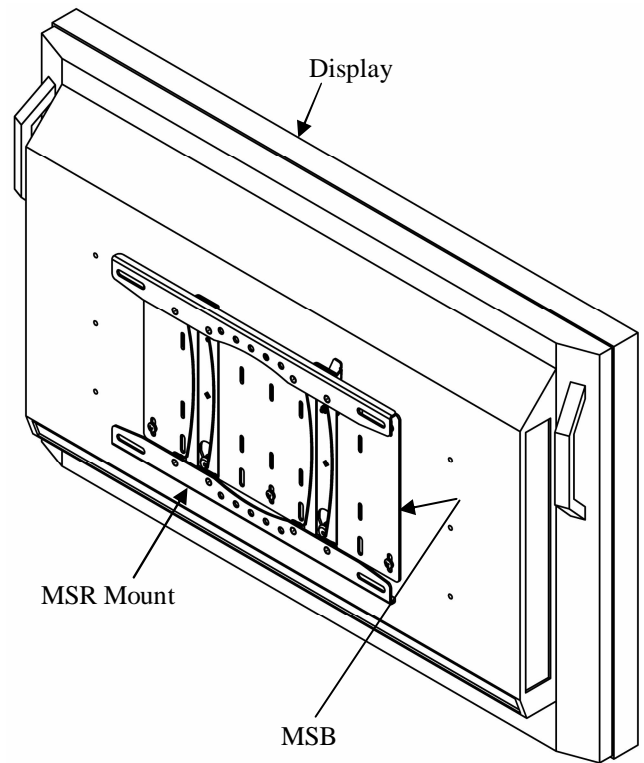

Figure 6. Install the Display
1. With the aid of another person, lift the display up to the mount (10) on the wall, aligning mounting buttons with the teardrop slots on the mount, and lower the display firmly into place (see Figure 6).